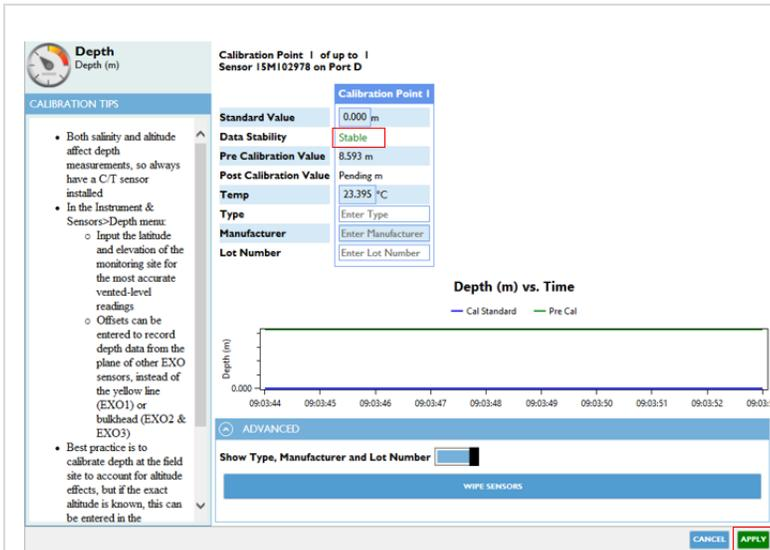

Figure 110. Depth calibration point.
**STEP 2** | In the Kor software, under the Calibration Menu, select Depth. Input the following information (**Figure 110**):